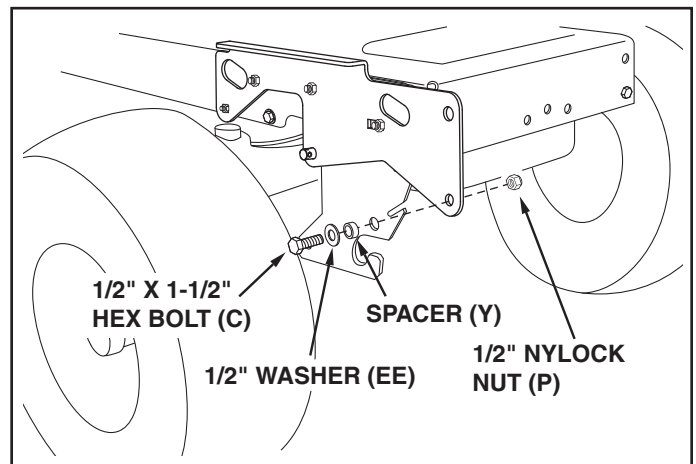

FIGURE 7
STEP 7: (SEE FIGURE 7)
- Place a 1/2" washer (EE) and then a short spacer (Y) onto a 1/2" x 1-1/2" hex bolt (C). Install the bolt in the bottom hole at the front of the R.H. side plate and secure it with a 1/2" nylock nut (P). Repeat for the L.H. side plate.